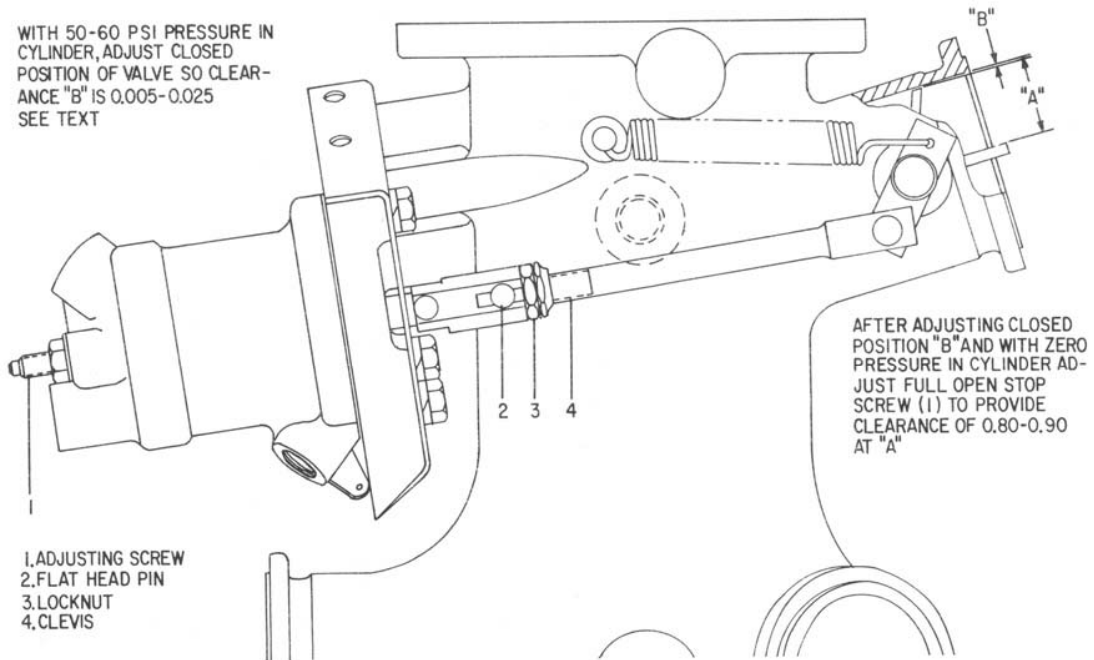

Figure 5-2. Open and Closed Position of Exhaust Bypass Valve – TIO-541-A1A, -E1A5, -E1B4
5. *TURBOCHARGER EXHAUST BYPASS VALVE SETTINGS.* The butterfly valve in the exhaust bypass valve is set to a predetermined open and closed clearance. The open and closed positions and directions on how to set them are called out in Figures 5-2 and 5-3.